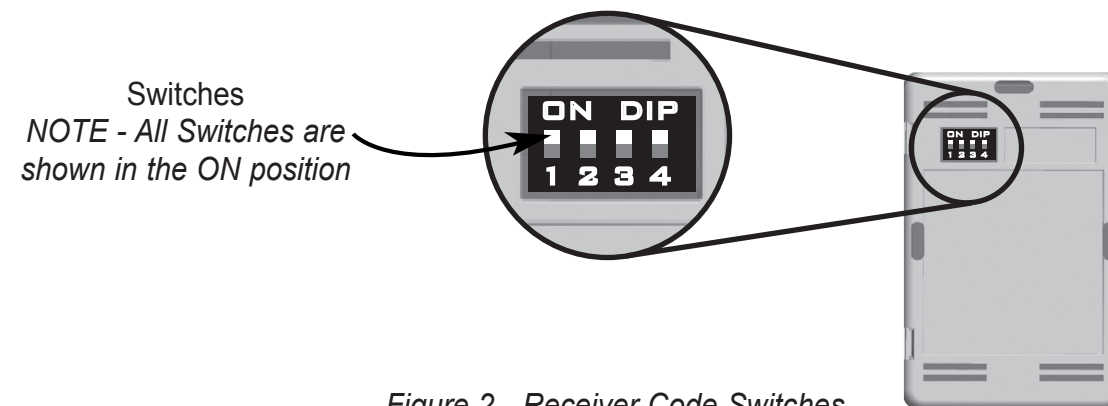

Figure 2 - Receiver Code Switches
- 2) On the Receiver you will see the four switches that you will use to set the code for the Transmitter and the Receiver. See Figure 2.